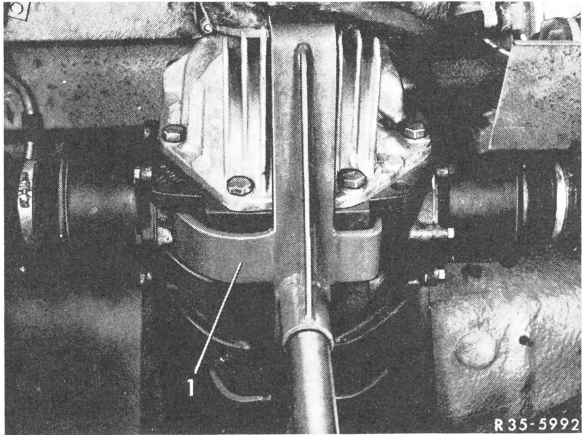

Fig. 1
- 1 Support rear axle housing on vehicle jack top (Fig. 1).